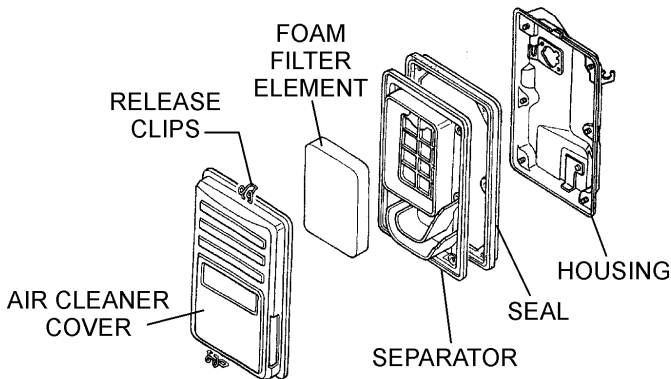

Figure 36. Engine Air Cleaner
1. Remove the air cleaner cover (Figure 36) and foam filter element as shown in .